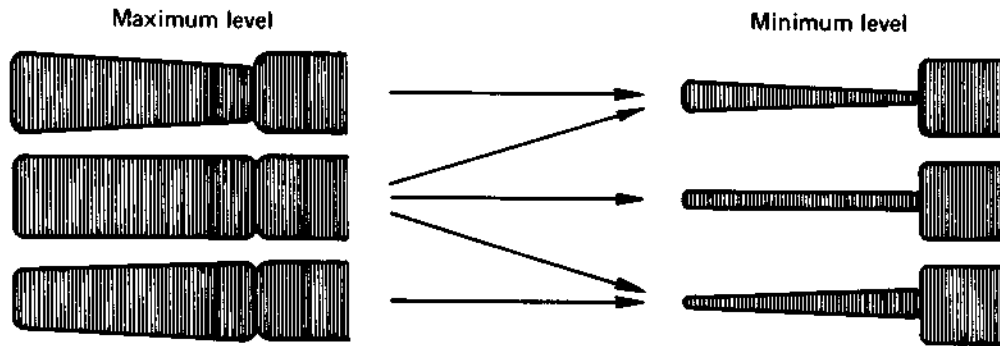

Fig. 5-36 Normal waveform examples
1. Observe the FM waveform as in the previous section (5-8-1 A) and turn the Normal Tracking control. The waveform variation should be nearly parallel as shown in Fig. 5-36.